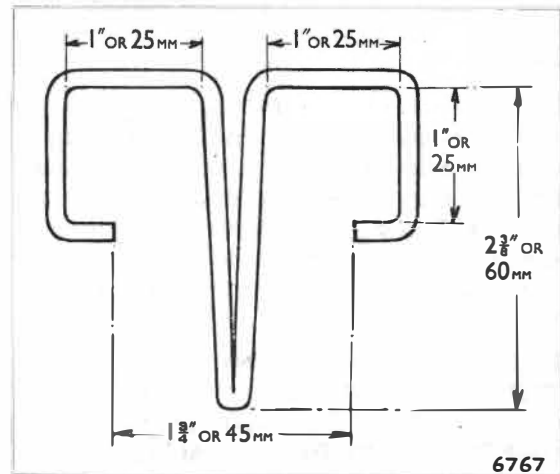

Fig. 21. The compression tool
2. Remove the piston assembly (5) spring (6) gasket (1) and end cover (15) from the vacuum cylinder (19) by removing the transfer pipe retaining plate and seven nuts and bolts while controlling the pressure of the spring (6). When fitted **DO NOT DISTURB THE SCREW AND LOCKNUT IN THE END COVER (15).**
3. Remove the vacuum cylinder (19) and gasket from the cast body (29) by withdrawing three bolts, washers and a clamping plate and easing the grommet in the flange of the cylinder from the transfer pipe (17).
4. Remove the cover and transfer pipe (17) from the valve chest (26) by withdrawing four screws and washers.
5. Remove the valve retainer and flat horse-shoe spring from inside the valve chest (26) by withdrawing two screws.
6. Withdraw the valves (22 & 31) and "Tee" shaped lever (11) complete from inside the valve chest (26) by applying light pressure to the plug (8) in the end of the control piston bore.
7. Remove the cast body (29) from the vice and withdraw the control piston assembly from the top bore by tapping the mounting flange of the cast body on a wooden block.
9. Remove the two seals from the control piston and one from the plug (8).
10. Withdraw the piston rod bearing bush (23) from the output piston bore and using a hooked tool remove the gland seal beneath followed by the nylon spacer (24).
11. Mount the cast body vertically in the vice by one of the mounting lugs and fit the compression tool to press the output piston (25) into the bore. For the compression tool details see Fig. 21.
13. Release the compression tool when the piston spring (27) will push out the washer followed by the output piston (25) the latter is then discarded
- ii Fit a new output piston (25) as the piston rod seal can only be fitted during manufacture and confirm that the taper seal has the larger diameter nearer the reduced end of the piston.
- iii Fit the spring (27) to the output piston (25) feed into the bore, spring first, followed by the washer and hold in position with the compression tool and clip the tool under the mounting flange of the cast body (29).
- v Fit the nylon spacer (25) into the bore, large end first, followed by the gland seal, lip end first and finally fit the bearing bush (23).
- vi Fit the control piston to the bore so the transverse hole aligns with the hole in the valve chest (26).
- vii It is unlikely that the two nylon valves (22 & 31) will need renewing but when it is necessary their faces should be lapped on a piece of glass with fine lapping paste to ensure they are airtight. Fit the valves (22 & 31) and "Tee" shaped lever (11) complete so the horseshoe spring location above the
### COMPRESSION TOOL (Fig. 21)